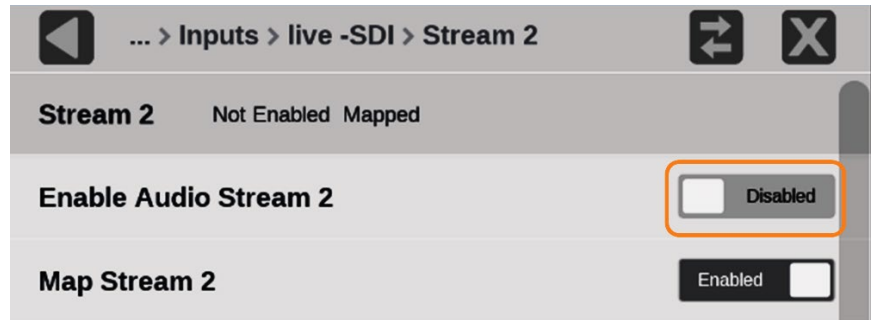

Figure 91: Stream Enable Audio Stream set to Disabled
- a. Select a stream you do *not* want to hear and set Enable Audio Stream to **Disabled** (see Figure 91).